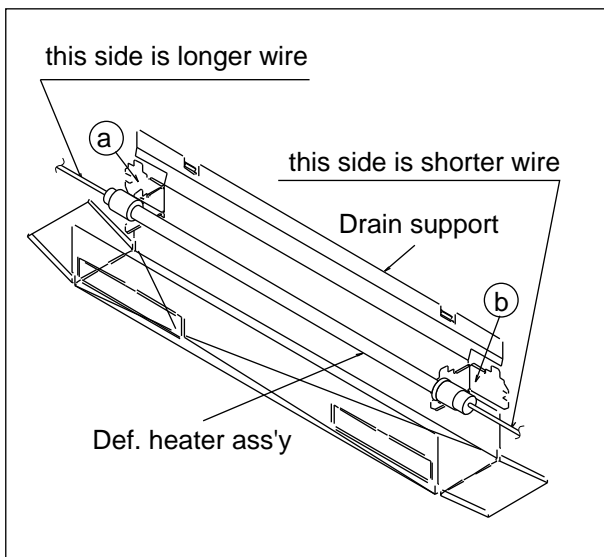

Fig. A-29
6. Band (a) and (b) of Drain support to right angle (90°) set Def. heater ass'y. (Fig. A-29)